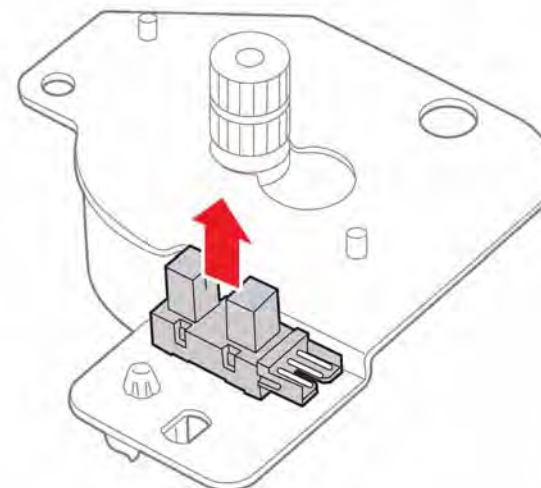

Figure 1 Remove the Diverter Home Position Sensor
5. Release 3 hooks that secure the sensor to the Diverter Drive Assembly, Figure 1.